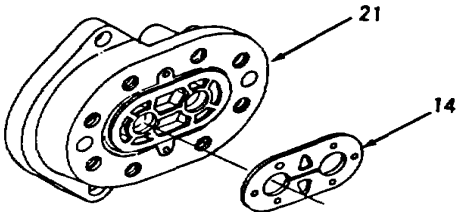

Figure 10-17.
- 8. Remove diaphragm (14) from front plate (21, Figure 10-17).